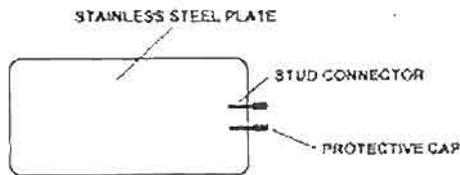

Figure 1-12. Reusable patient return electrode.
j. Reusable patient return electrode (fig 1-12). The patient return electrode consists of a flat, stainless steel plate with two threaded studs mounted on one end which connect to the patient return electrode cable assembly. The patient return electrode does not require sterilization.